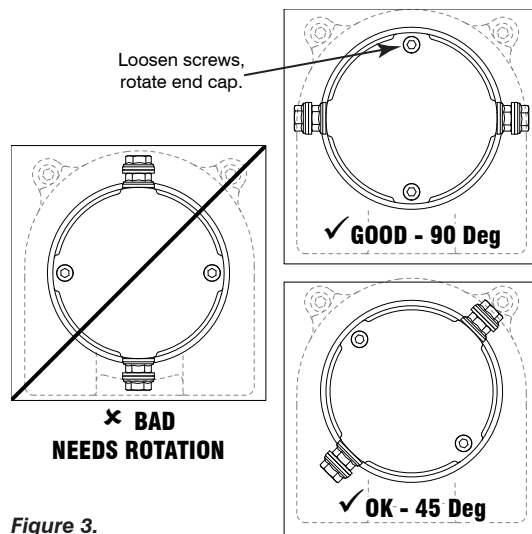

Figure 3.
4. For all wide winches with leads on the **end of the motor** in a **vertical** orientation, you will need to **rotate** the leads so they do not interfere with the bumper frame once re-assembled. If your winch has leads on the *inside* (near the spool), then move to Step 5, otherwise see **Figure 3** and continue.
- In general, to rotate the leads, loosen the two screws on the endcap in **Figure 3**, then rotate the entire motor housing 90 or 45 degrees (depending on your winch). For detailed instructions go to the **Support** section at www.kfiproducs.com and download "Winch Motor Lead Rotation Instructions".